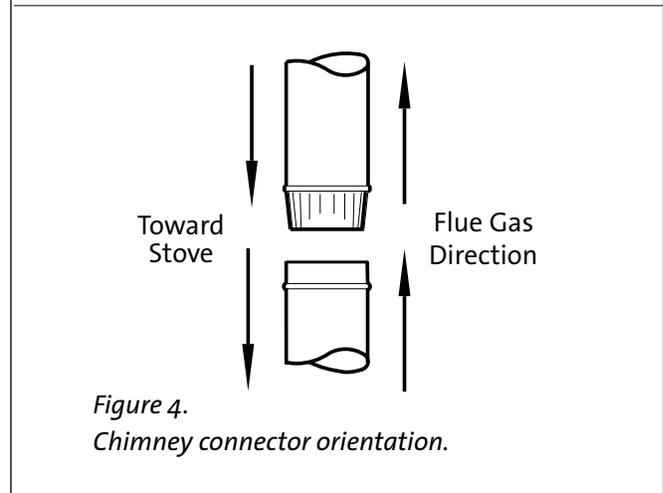

Figure 4.
- Each connector section must be oriented with the male (crimped) end pointing toward the stove. See **fig. 4**.